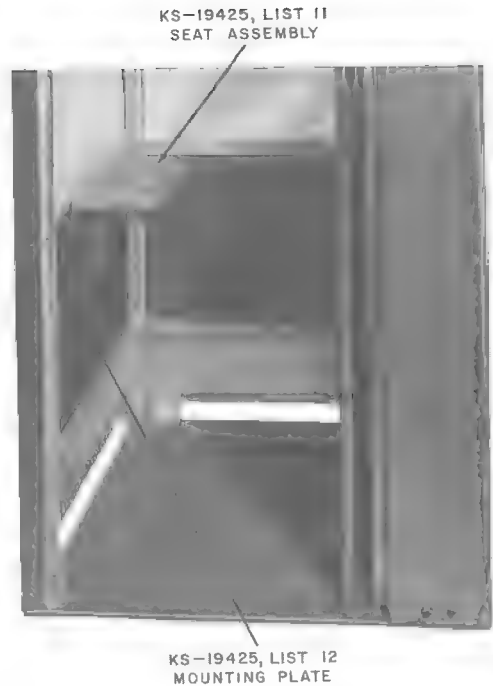

Fig. 10—KS-19425, List 11 Seat Assembly with KS-19425, List 12 Mounting Plate
2.19 This booth is designed primarily for standup service; however, a KS-19425, List 11 seat assembly can be used if desired (Fig. 10). Order